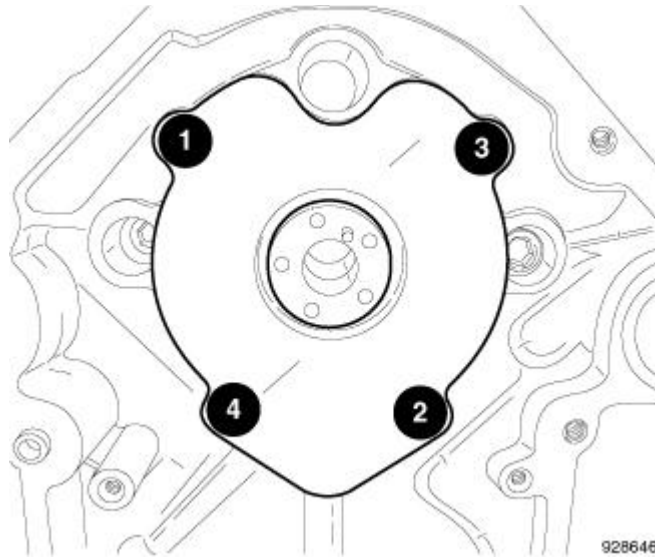

Fig. 131: Camshaft Thrust Plate Bolt Tightening Sequence
3. Tighten the bolts to 28 N.m (21 ft. lbs.) in the sequence shown. See **Fig. 131**.